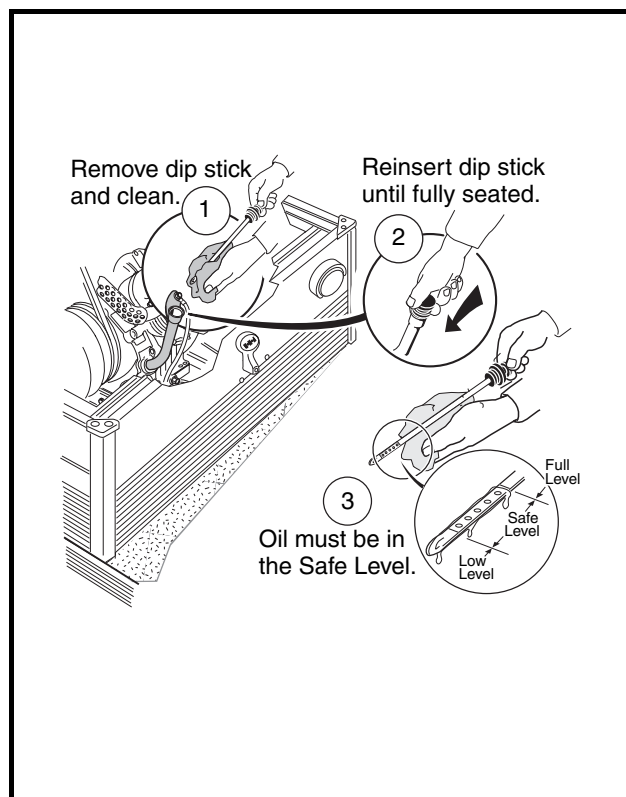

Figure 10-3 Check Engine Oil Level
1. Remove the oil level dipstick from the oil filler tube and wipe oil from the stick (**Figure 10-3, Page 10-6**). See following **CAUTION**.